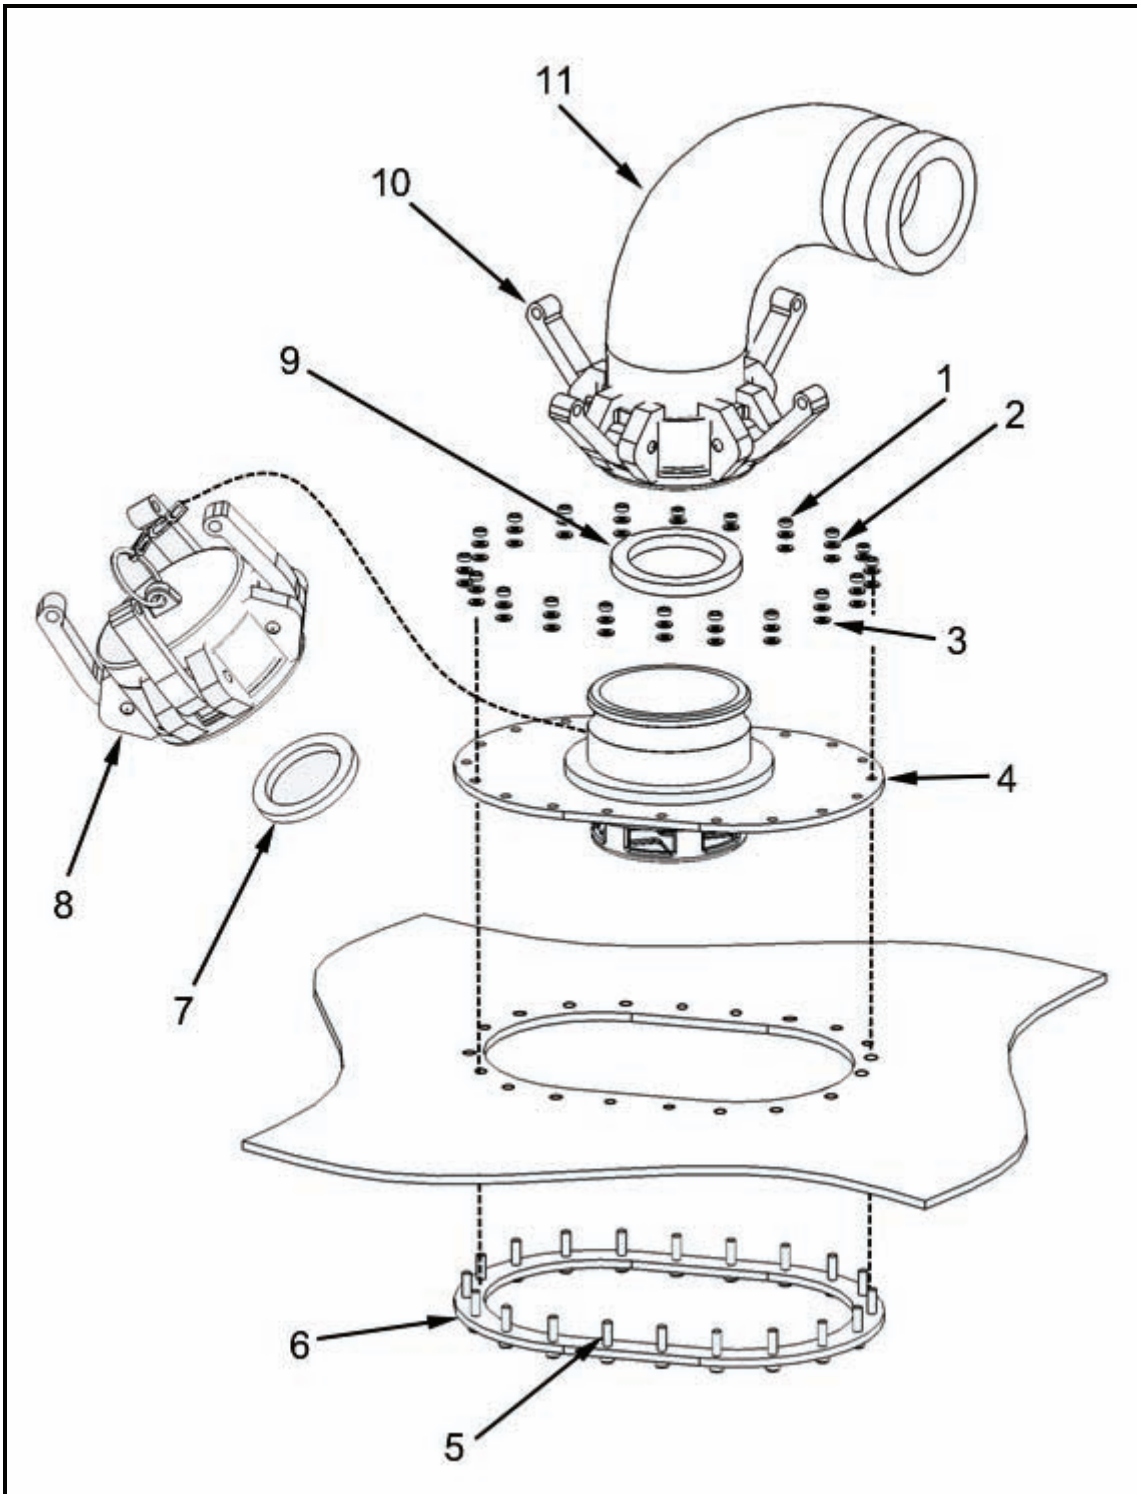

Figure 1. Fill/Discharge Assembly (with Manway)
1. Remove 6-inch elbow (Figure 1, Item 11) by pulling outward on cam-lever arms (Figure 1, Item 10), and lifting elbow from flanged adapter (Figure 1, Item 4).
2. Remove and discard elbow gasket (Figure 1, Item 9) from inside elbow (Figure 1, Item 11).
3. Remove twenty nuts (Figure 1, Item 1), lock washers (Figure 1, Item 2), and washers (Figure 1, Item 3) from flanged adapter (Figure 1, Item 4). Lift flanged adapter from tank compression ring fitting (Figure 1, Item 6).
1. Install new gasket (Figure 1, Item 7) into dust cap (Figure 1, Item 8).
2. Install new elbow gasket (Figure 1, Item 9) into 6-inch elbow (Figure 1, Item 11).
3. Position flanged adapter (Figure 1, Item 4) on compression ring (Figure 1, Item 6), and align the holes.
4. Install twenty nuts (Figure 1, Item 1), lock washers (Figure 1, Item 2), and washers (Figure 1, Item 3) on compression ring studs (Figure 1, Item 5).